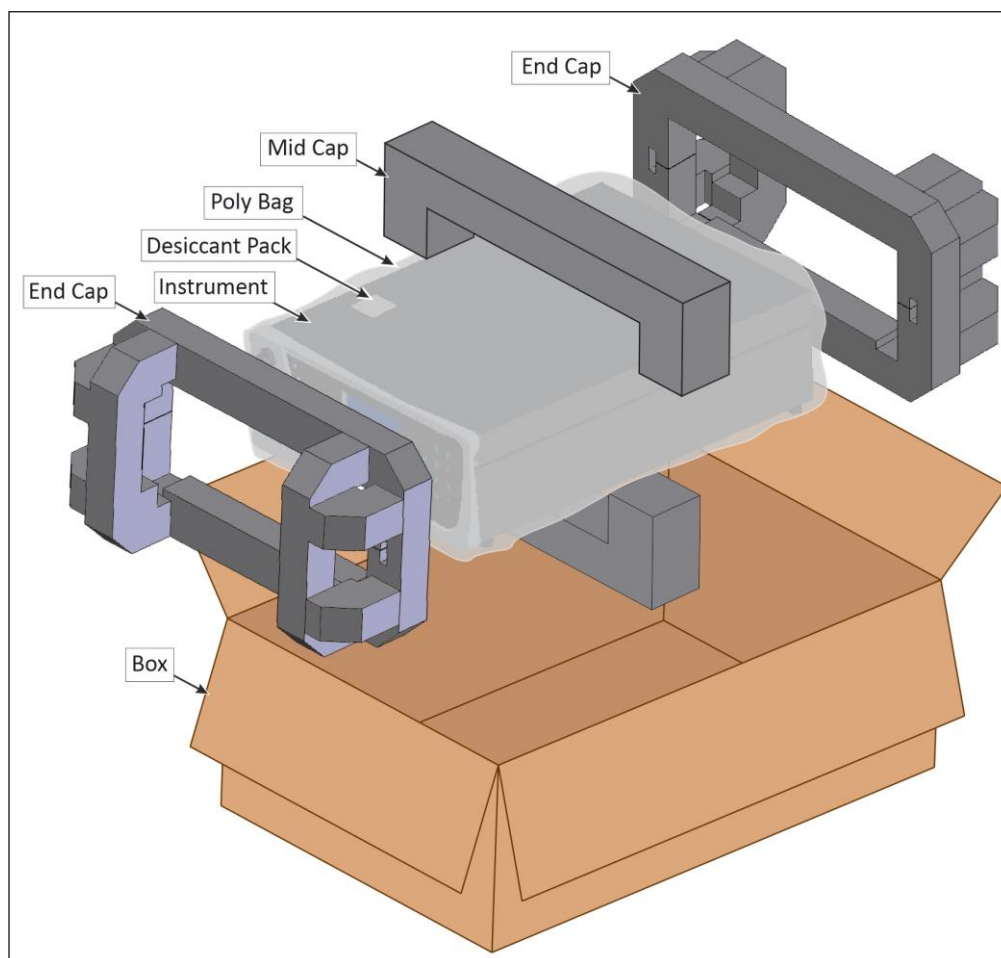

Figure 40 – Packing Instruction
9. Refer to Figure 40. Place the instrument back into the original foam and box it was delivered in. If this is no longer available find some equivalent packaging that provides protection from damage.